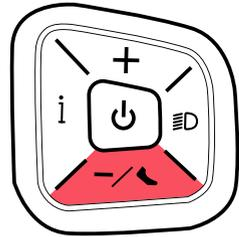

FIG.1
When the bike is at PAS level 0 and stationary, hold the "-" button to activate walking assist (fig.1). The e-bike will be running at the constant speed of 6 km/h and displays the "🚲" icon while in this mode. Release the "-" button to stop the walking assist.
1. Navigate to "bL" (fig.1). The number below should be flashing with "2".